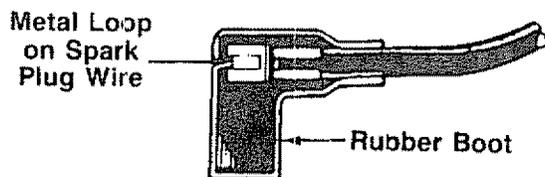

FIGURE 8.
- Connect spark plug wire to spark plug. Make certain the metal loop or the end of the spark plug wire (inside the rubber boot) is fastened securely over the metal tip on the spark plug. See figure 8.